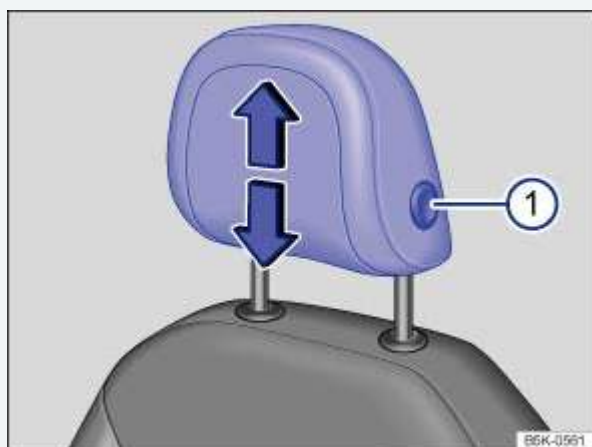
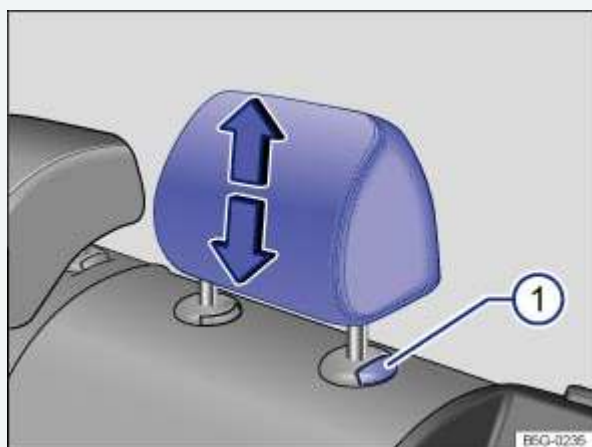

Fig. 44 Adjusting the front head restraints.
Fig. 45 Adjusting the rear head restraints.
- Pull the head restraint up in the direction of the arrow, or push it down while pressing the button  *Fig. 44*  or  *Fig. 45*   .